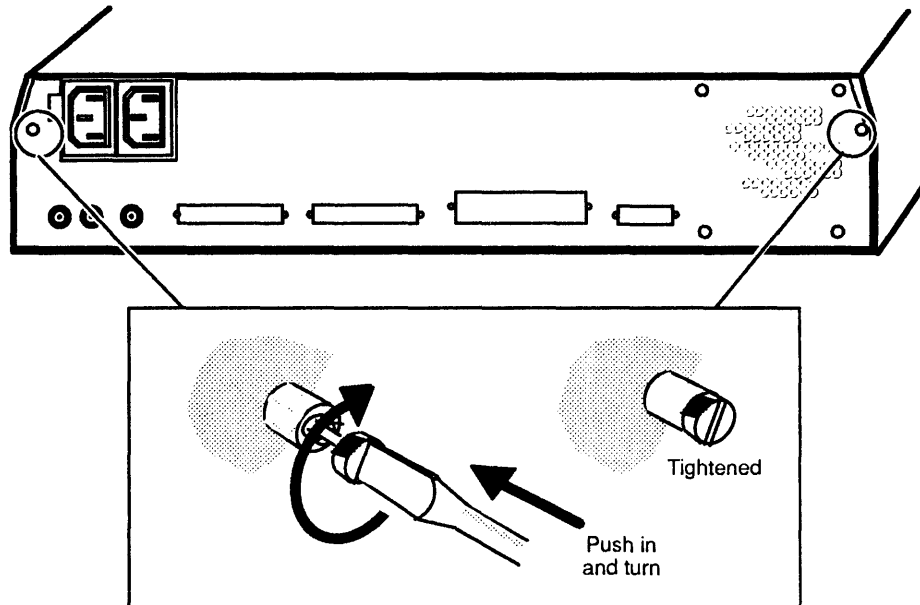

Figure 2-5 Tightening the Two Screws that Attach the Tray Assembly to the Computer Unit Housing
6. Tighten the two screws that attach the tray assembly to the housing as shown in Figure 2-5.